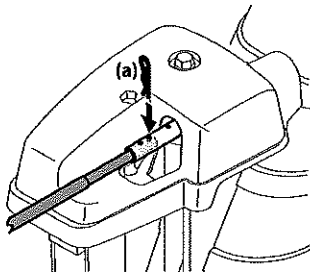

Figure 2-33
6. Push chute control rod toward the control panel until hole in rod lines up with middle hole in chute control input and insert cotter pin (a) removed in Step 1. See Figure 2-33.